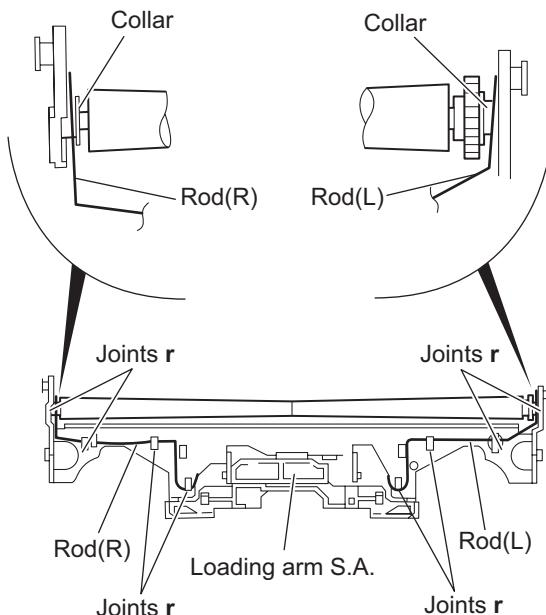

Fig.15
(See Figs.15 and 16)
- (1) From the bottom side of the loading arm S.A., release the rod (L) and (R) from the joints r. (See Fig.15)
After attaching the roller assembly to the loading arm S.A., attach the rod (L) and (R). Attach the rods to the right and left collars of the roller. (See Fig.15)